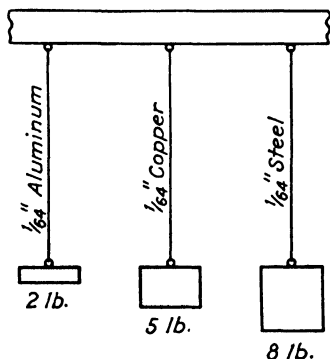

Fig. 207.
A. Demonstration 1. Take three wires—one aluminum, one copper, and one steel—all $\frac{1}{64}$ in. in diameter and suspend them as shown in Fig. 207.